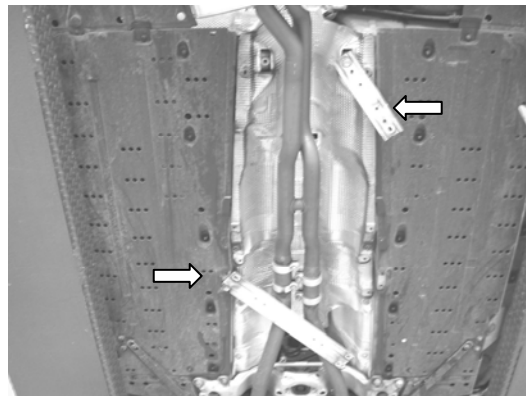

Figure 2
2. Unbolt one side of the front and rear support brackets and swing them out of the way as shown in figure 2.